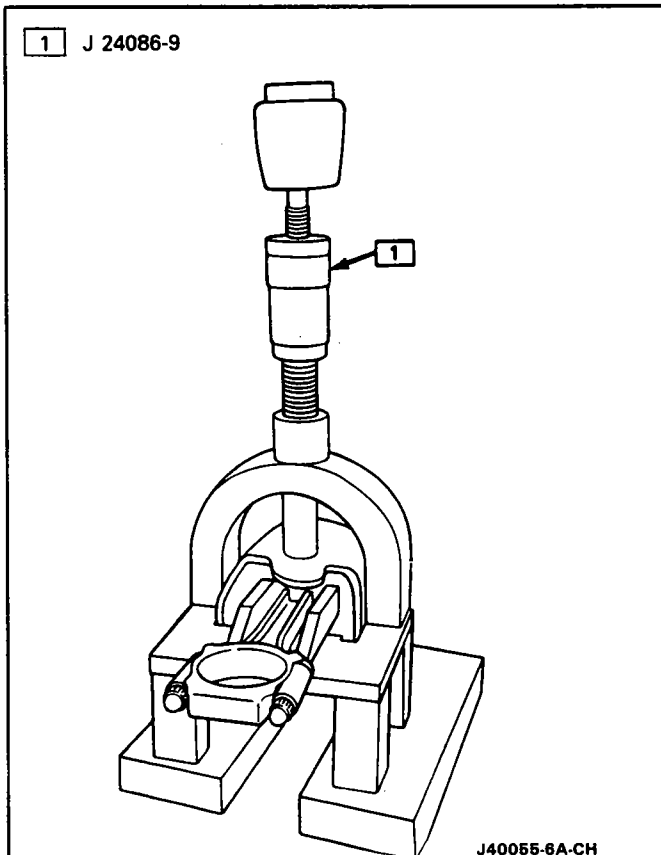

Figure 41 Installing Piston Pin Using Tool J 24086
- Place piston and connecting rod into Fixture J 24086 (Figure 41)